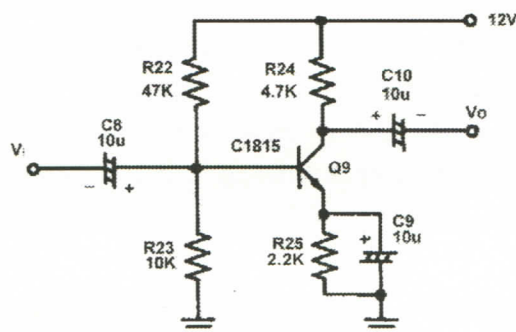

Fig 10-4 Current-sampling series-mixing negative feedback circuit
- (1) Insert the short-circuit clip by referring to Fig 10-4 and the short-circuit clip arrangement diagram 23007-block b.2. Connect capacitor C9 to bypass R25 (1K Ω) that acts as the feedback device in this current-sampling series-mixing circuit. The AC impedance of the capacitor is very small.
- (2) Use multimeter (DCV) to measure Vc9(Q9 collector).
- (3) Connect signal generator and oscilloscope in the input terminal (IN2), and connect oscilloscope to the output terminal (OUT). Adjust the output of signal generator to 1KHz sine wave and gradually increase the output voltage so that the oscilloscope can display maximum non-distorted waveform in the output terminal. View and record the waveforms in IN and OUT respectively.
- (4) Remove C9 (disconnect the short-circuit clip) so that this circuit will operate as the topology of negative feedback.
- (5) Repeat Step (2) (3).